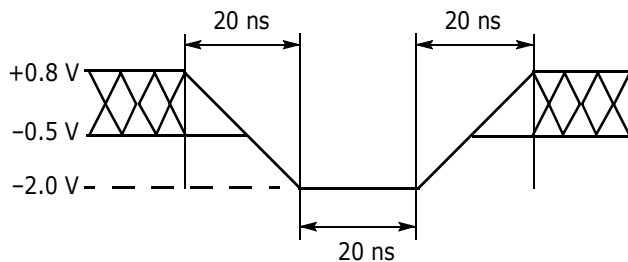
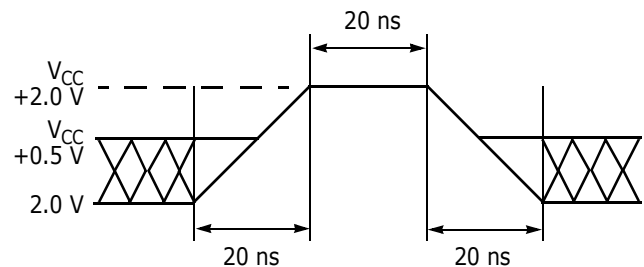

Figure 8. Maximum Negative Overshoot Waveform
Figure 9. Maximum Positive Overshoot Waveform
1. Minimum DC voltage on input or I/O pins is –0.5 V. During voltage transitions, input or I/O pins may overshoot V_{SS} to –2.0 V for periods of up to 20 ns. Maximum DC voltage on input or I/O pins is V_{CC} +0.5 V. See Figure 8. During voltage transitions, input or I/O pins may overshoot to V_{CC} +2.0 V for periods up to 20 ns. See Figure 9.
2. Minimum DC input voltage on pins A9, OE#, RESET#, and WP#/ACC is –0.5 V. During voltage transitions, A9, OE#, WP#/ACC, and RESET# may overshoot V_{SS} to –2.0 V for periods of up to 20 ns. See Figure 8. Maximum DC input voltage on pin A9 is +12.5 V which may overshoot to +14.0 V for periods up to 20 ns. Maximum DC input voltage on WP#/ACC is +9.5 V which may overshoot to +12.0 V for periods up to 20 ns.